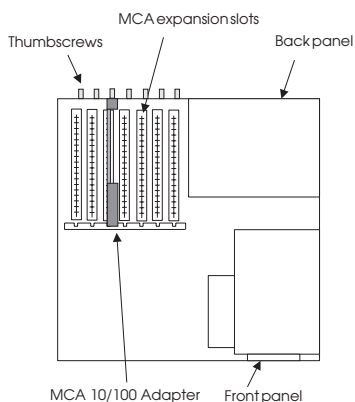

Figure 2. MCA PC Top View
3. Remove the PC top cover to expose the inside of the PC. See figure 2 for Micro Channel Architecture (MCA-type) computers.